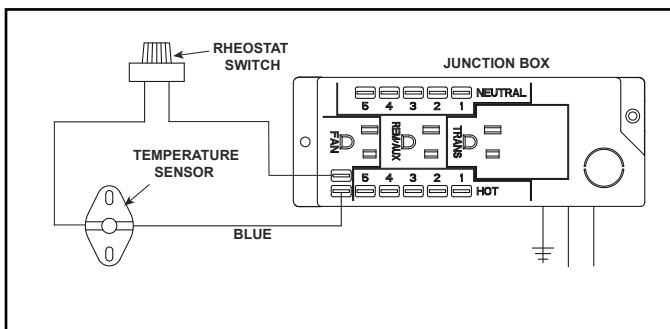
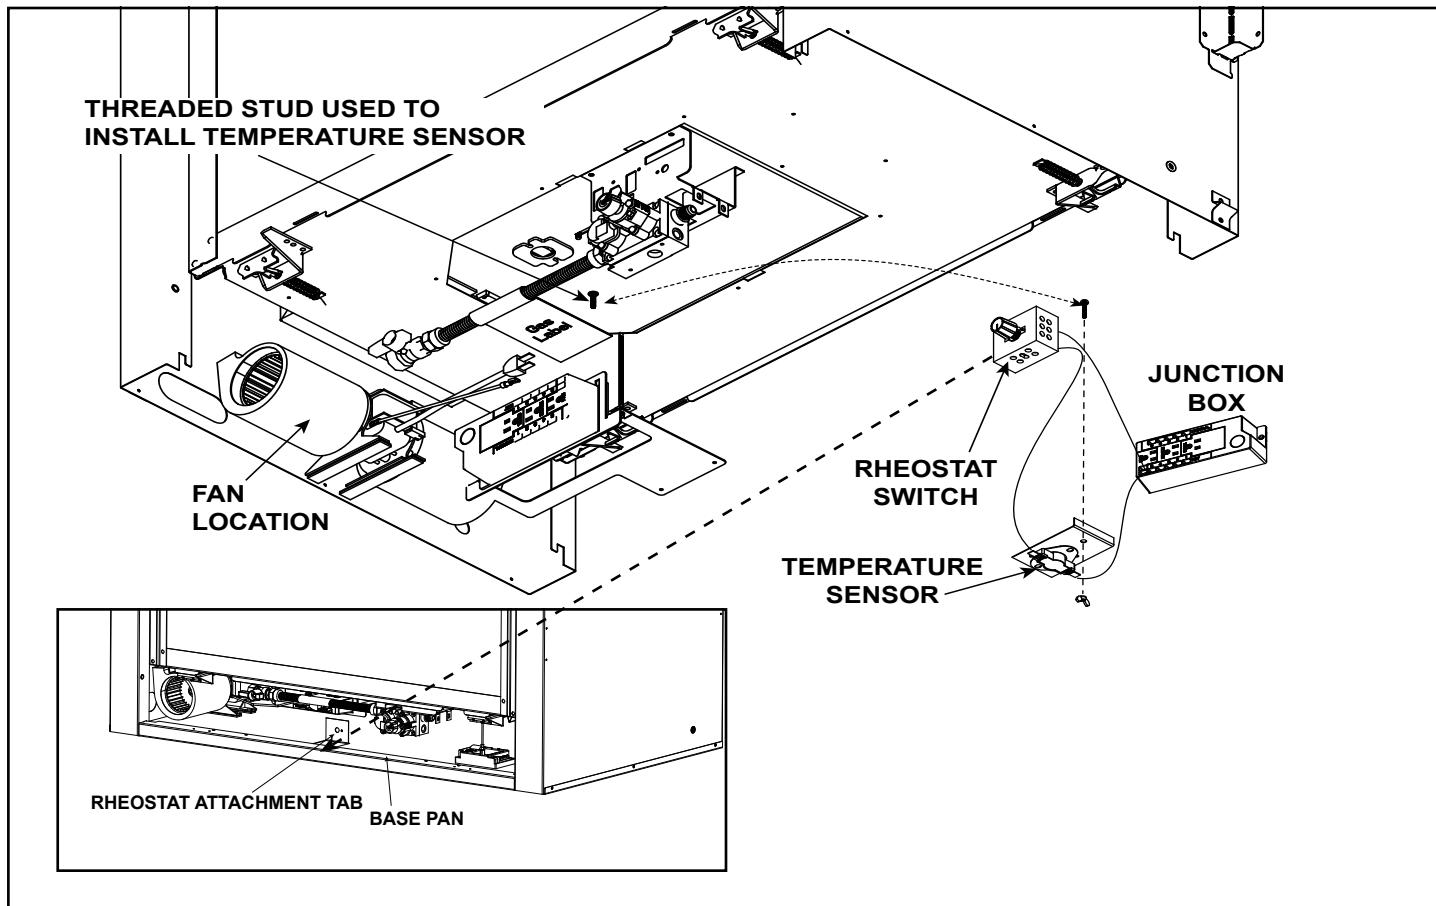

Figure 8.5 Detail of Fan Wiring with Rheostat
Figure 8.4 Fan Location, Fan and Rheostat Wiring
1. Install and wire the fan in appliance as shown in Figure 8.4 and Figure 8.5.
3. Attach rheostat to the rheostat attachment tab. The tab folds out of the appliance base pan. See Figure 8.4.
2. Locate the fan as shown in Figure 8.4.
If the fan will not be installed for operation with the IFT-RC400, the temperature sensor will need to be installed. See Figure 8.4 for location of the temperature sensor and fan control.
- Install rheostat switch in location as seen in Figure 8.4.
- Connect temperature sensor wire and rheostat switch wires to junction box as shown in Figure 8.5.